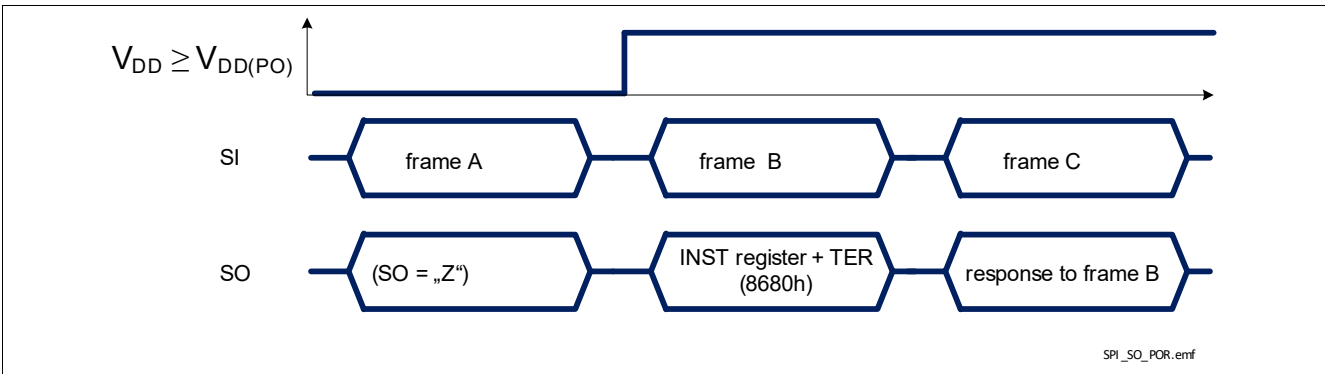

Figure 36 TLE75242-ESD response after coming out of Power-On reset at V_{DD}
- when TLE75242-ESD logic supply comes out of Power-On reset condition or after a Software Reset, as shown in **Figure 36**